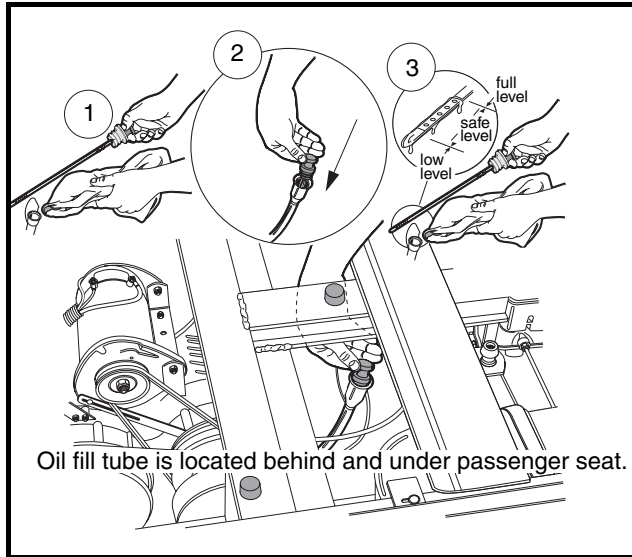

Figure 15 Engine Oil Level Check
1. Remove the oil level dipstick from the oil filler tube and wipe oil from dipstick (**Figure 15**). See following **CAUTION**.